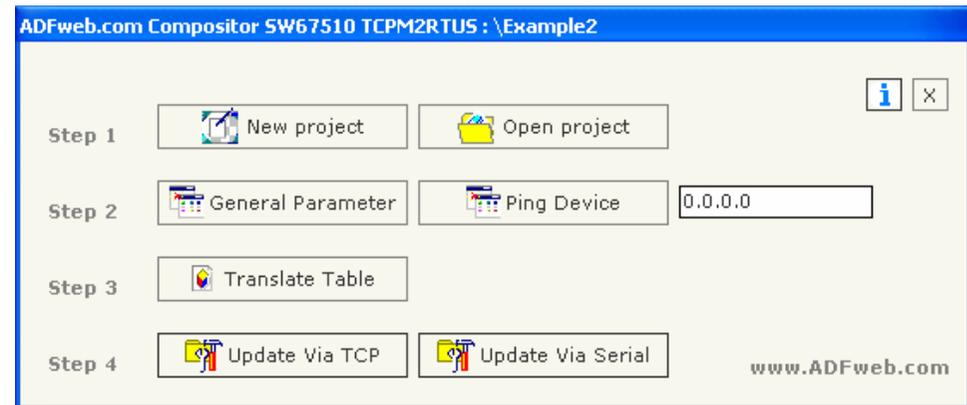

Figure 3: Main Window for SW67510
When launching the SW67510 the following window appears (Fig. 3):
By pressing the "General parameter" button from the main window for SW67510 (Fig. 3) the window "General Parameter" appears (Fig. 4).
By pressing the "Translate Table" button from the main window for SW67510 (Fig. 3) the window "Set Translate Table" appears (Fig. 5):
- Check the "Boot Led". It must blink quickly (see the Fig. 3 for more info);